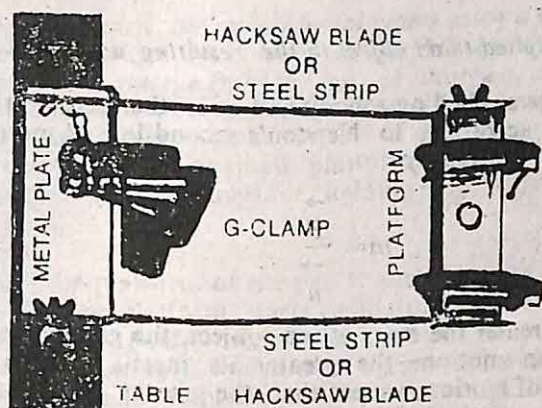

Fig. 4.1. Inertia Balance.
1. Fix the two hacksaw blades or two steel strips as shown in Fig. 4.1. The 'hacksaw' blades (or similar metal strips) should be
clamped tightly between the small metal plates using a G-clamp. It is very important to have the blades held tightly and symmetrically just where the blades emerge from the jaws as otherwise energy is lost too fast and the oscillations are badly damped. The whole set up is clamped to the edge of the table as shown in Fig. 4.1. At the free ends of the blades attach a small platform or a pan made of card board or wood. It is to be used for holding the body or a known mass.